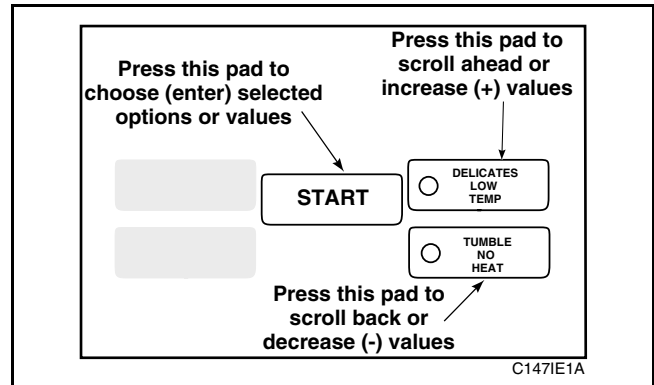

Figure 39
- Press the LOW TEMP (+) pad or the NO HEAT (-) pad to increase or decrease the current number of minutes to the desired number of minutes, *Figure 39*.